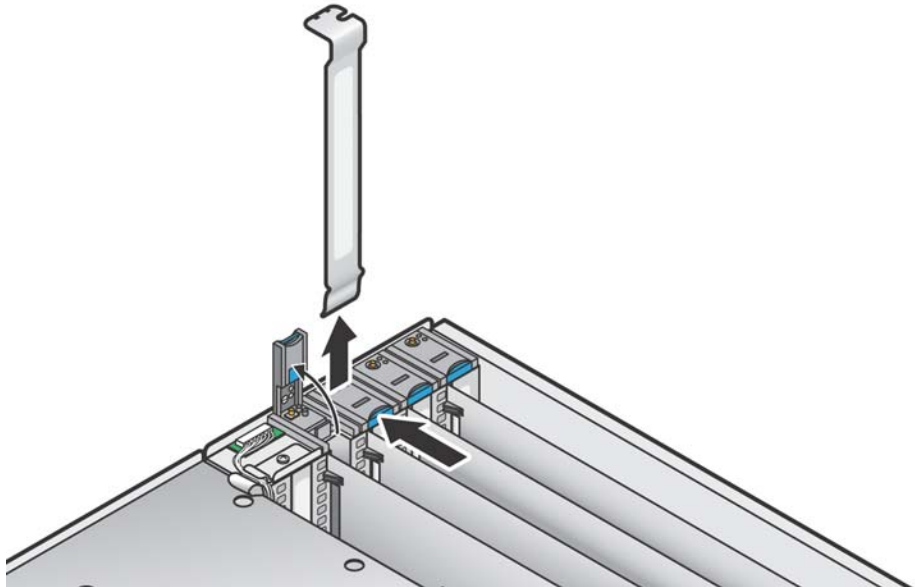

FIGURE 5-5 Removing or Installing a Sun Fire V40z Vertical PCI Card That Has an MRL
- If you are replacing a card in a slot that has a mechanical retention latch (MRL), push the button on the end of the MRL and lift the MRL flap (see FIGURE 5-5).